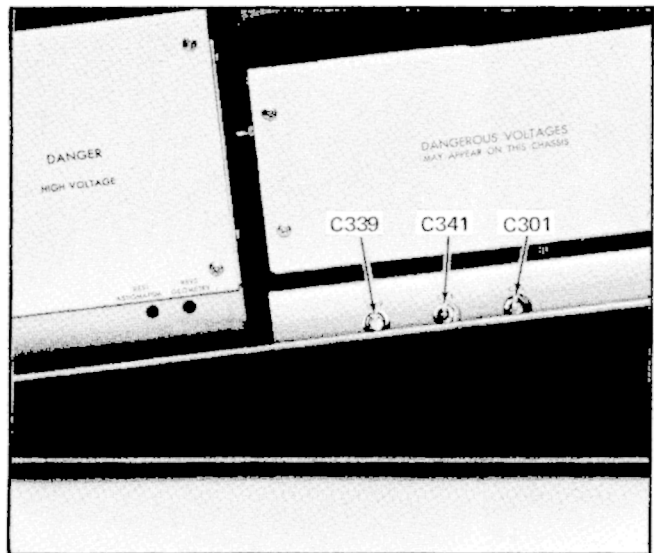

Fig. 5-13. Location of adjustments in step 35.
c. ADJUST—C301, LOOPING BALANCE adjustment, on the left side of the instrument (see Fig. 5-13) if the trace has two loops.
f. ADJUST—C341, H. F. NOISE REJECTION adjustment, (see Fig. 5-13) for minimum high frequency noise. Do not adjust C341 more than a few turns clockwise.
h. ADJUST—C339, 350 V and 1500 V LOOPING COMPENSATION adjustment, (see Fig. 5-13) for minimum width of trace loop.
k. ADJUST--LOOPING COMPENSATION control and C301, LOOPING BALANCE adjustment (see Fig. 5-13), for minimum vertical width of the trace loop.